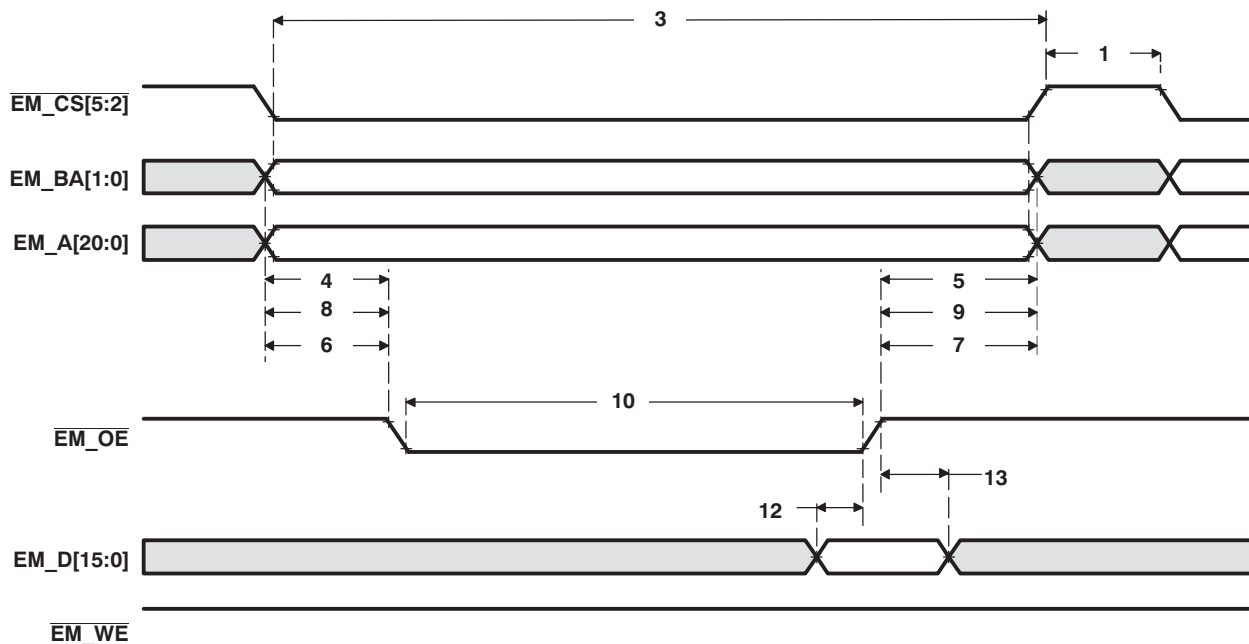
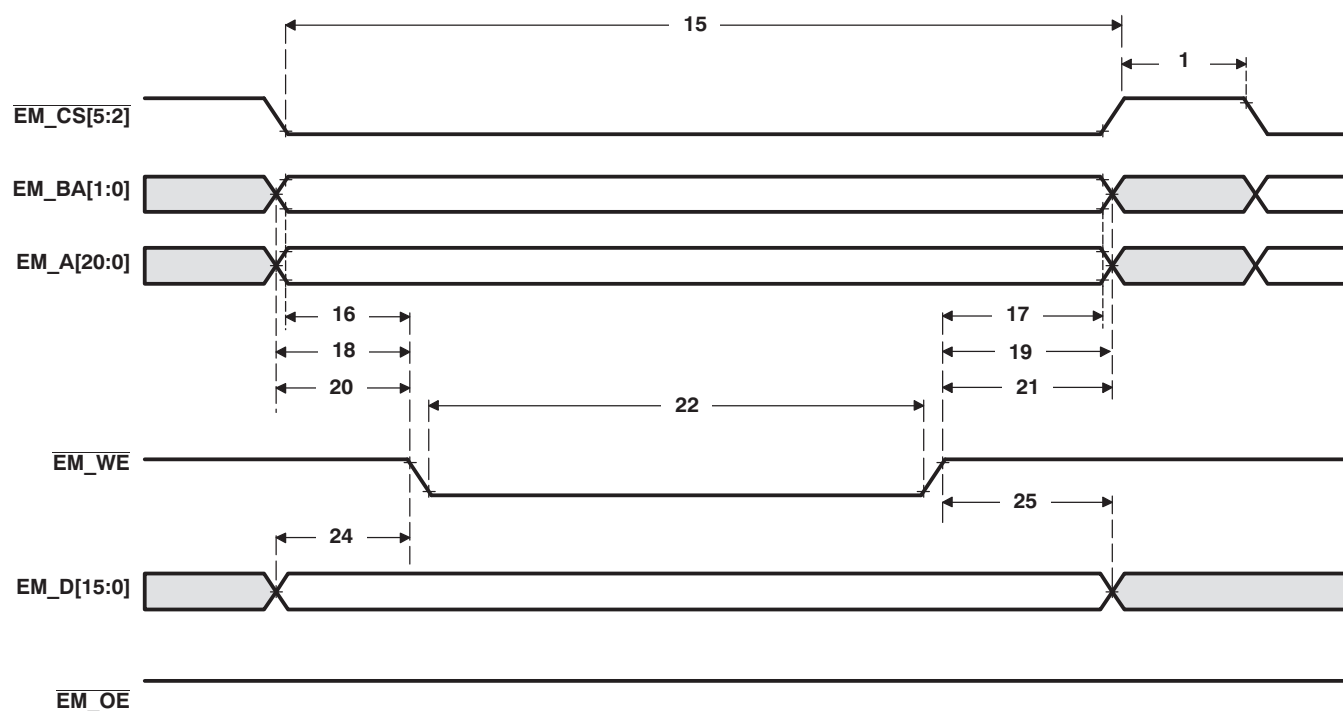
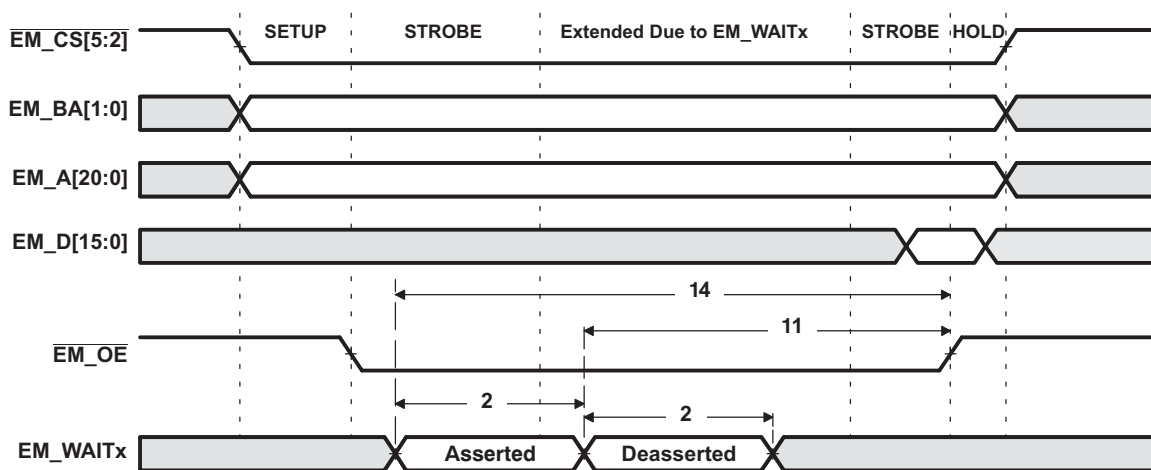
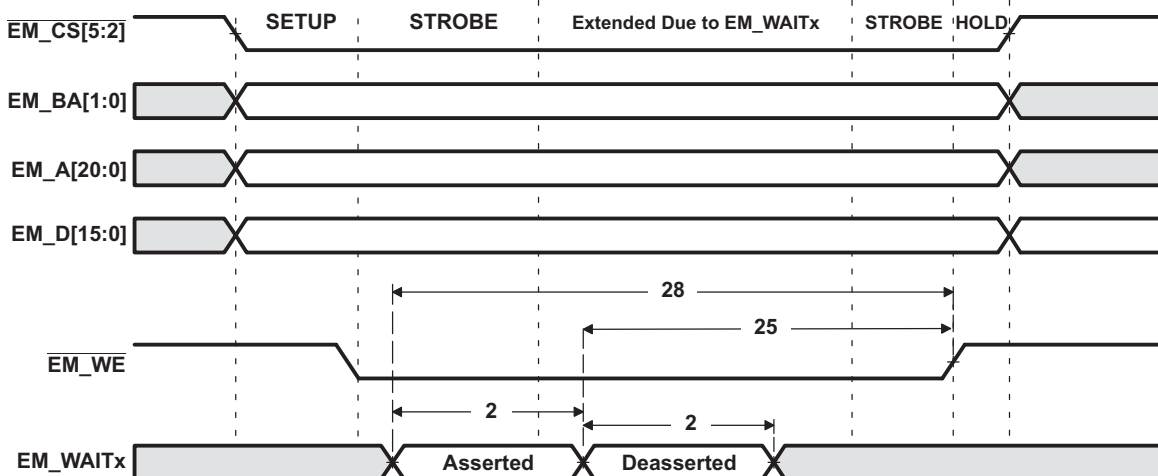

Figure 6-18. Asynchronous Memory Read Timing for EMIF
Figure 6-19. Asynchronous Memory Write Timing for EMIF
Figure 6-20. EM_WAITx Read Timing Requirements
Figure 6-21. EM_WAITx Write Timing Requirements
(1) TA = Turn around, RS = Read setup, RST = Read strobe, RH = Read hold, WS = Write setup, WST = Write strobe, WH = Write hold, MEWC = Maximum external wait cycles. These parameters are programmed via the Asynchronous Configuration and Asynchronous Wait Cycle Configuration Registers.
(2) E = SYSCLK period in ns. For example, when SYSCLK is set to 100/120 MHz, E = 10/8.33 ns, respectively.
(3) EWC = external wait cycles determined by EM_WAITx input signal. EWC supports the following range of values EWC[256-1]. Note that the maximum wait time before timeout is specified by bit field MEWC in the Asynchronous Wait Cycle Configuration Register.
Table 6-15. Switching Characteristics Over Recommended Operating Conditions for EMIF Asynchronous Memory^{(1) (2)} (see Figure 6-19 and Figure 6-21)⁽³⁾ (continued)
Table 6-18. Timing Requirements for EMIF Asynchronous Memory⁽¹⁾ (see Figure 6-18, Figure 6-20, and Figure 6-21)
(1) E = SYSCLK period in ns. For example, when SYSCLK is set to 100/120 MHz, E = 10/8.33 ns, respectively.
(2) Setup before end of STROBE phase (if no extended wait states are inserted) by which EM_WAITx must be asserted to add extended wait states. Figure 6-20 and Figure 6-21 describe EMIF transactions that include extended wait states inserted during the STROBE phase. However, cycles inserted as part of this extended wait period should not be counted; the 4E requirement is to the start of where the HOLD phase would begin if there were no extended wait cycles.
Table 6-19. Switching Characteristics Over Recommended Operating Conditions for EMIF Asynchronous Memory^{(1) (2) (3)} (see Figure 6-18, Figure 6-20, and Figure 6-21)
Table 6-19. Switching Characteristics Over Recommended Operating Conditions for EMIF Asynchronous Memory^{(1) (2) (3)} (see Figure 6-18, Figure 6-20, and Figure 6-21) (continued)